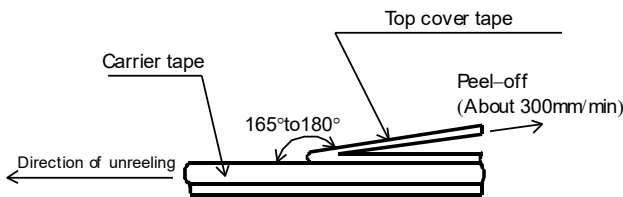
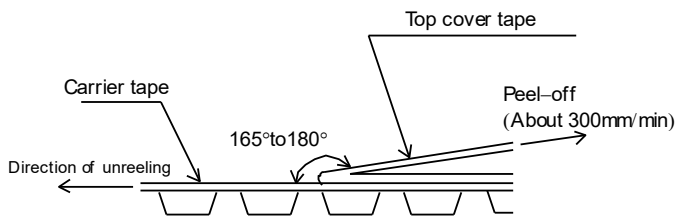

Figure-6
Figure-7
- 5). The peel strength of the top cover tape shall be with in 0.1N to 0.5N on the test method as shown in the following RPCH10,16,20,32:Figure-6,RPCH35:Figure-7.